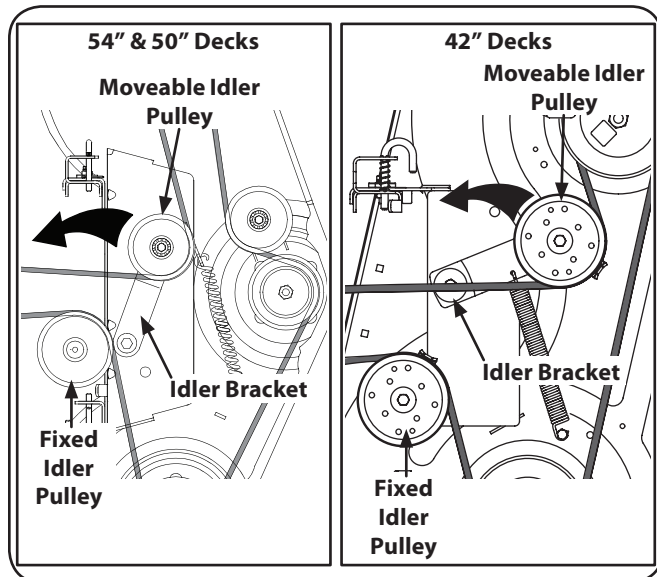

Figure 7-4
2. Working from the middle of the tractor, pivot the idler bracket and movable idler pulley rearward away from the backside of the "V" belt just far enough to lift the belt up and over the idler pulley. See Figure 7-4.